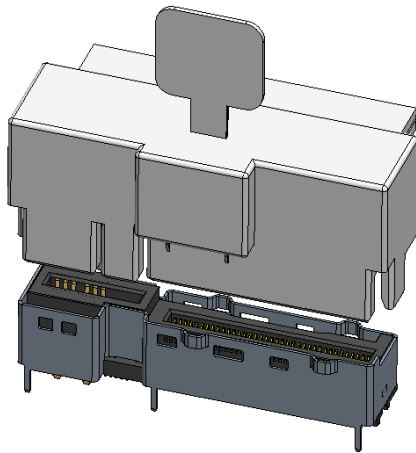
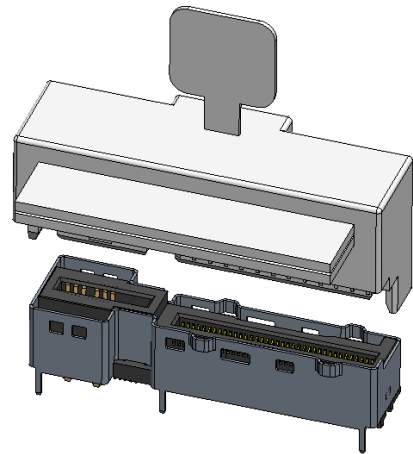

Figure 4-8 Combo x8+21A Power RA Cable Application
Figure 4-9 Combo x8+21A Power RRA Cable Application
2. A single combo cable can plug into the Vertical Combo DE x8+21A Power connector as shown in Figure 4-8, Figure 4-9, or Figure 4-10.